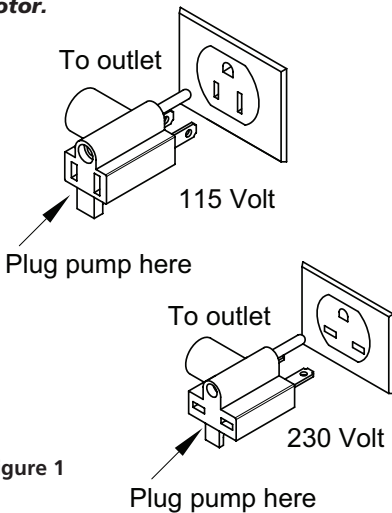

Figure 1
**⚠ WARNING** *Risk of electrical shock. Can burn or kill. To reduce risk of electrical shock, pull plug before replacing switch. Be sure switch is connected only to a properly grounded grounding-type receptacle. Where a 2-prong wall receptacle is encountered, it must be replaced with a properly grounded 3-prong receptacle installed in accordance with codes and ordinances that apply (See Figure 1). If use with a pedestal sump pump or other non-submersible motor, be sure switch setting does not allow water to touch motor.*